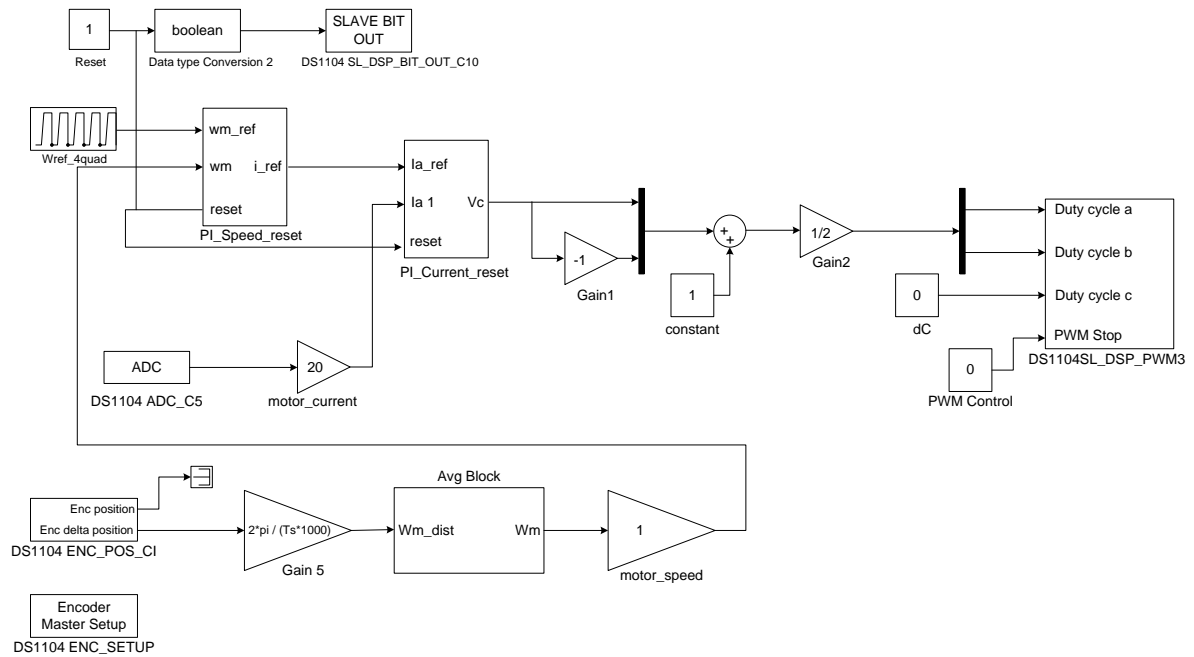
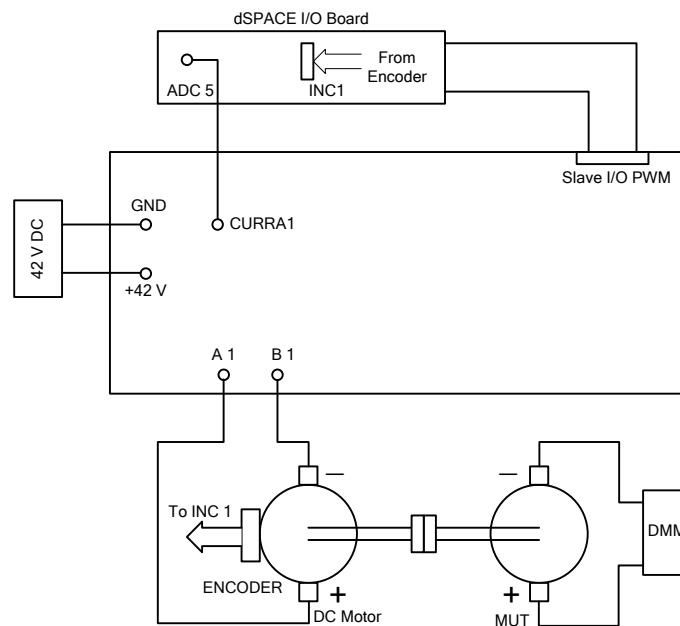

Figure 5.7: Simulink model for real-time implementation of DC motor control
Figure 5.8: Connections on the board
All the necessary components to make the model in Fig 5.7 are provided in the file ‘**components.mdl**’. If you would like to build it the instructions as in a to f are given below:
- Fig 5.7 is then the simulation block for DC-motor control. Make the connections on the board as shown in Fig. 5.8. The block `wref_4quad` gives a periodic step change in reference speed from 100 rad/sec to 300 rad/sec.